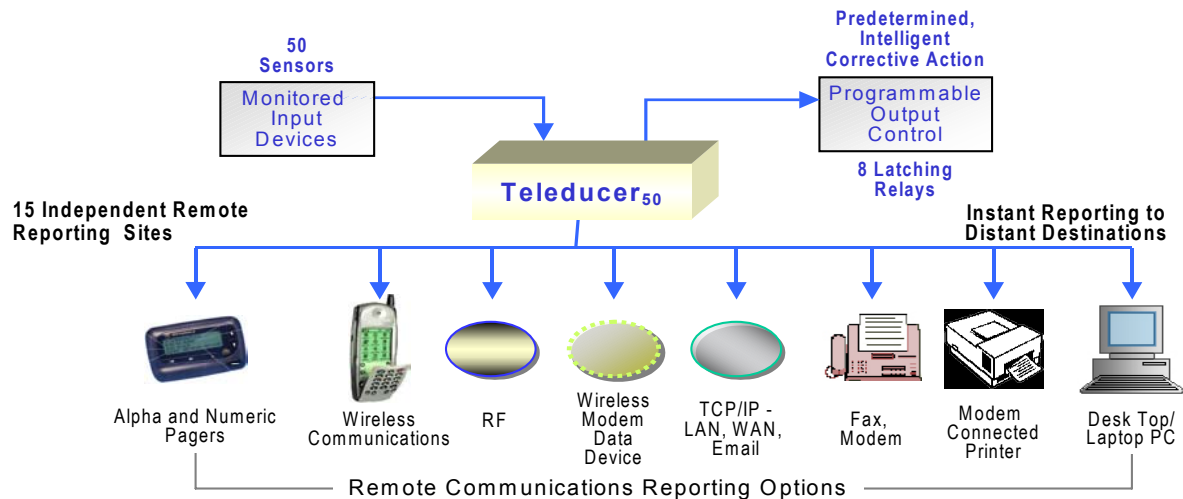

Figure 5
The Teleducer50[®] will alarm and notify fifteen (15) remote locations. This notification includes Auto Reporting features. It does this via boards inserted into the three (3) PCI slots or via the two (2) RS232 ports. The PCI slots will support many board types available in this technology beginning with the communication options shown in Figure 5 below: